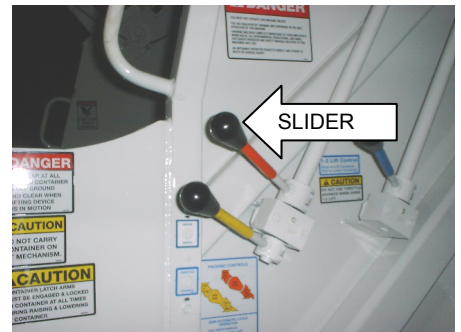

Fig. 3
- ❑ 5- Go the tailgate; move the orange slider control lever to shifted position (push for "up") and let go of lever. <FIG 3>